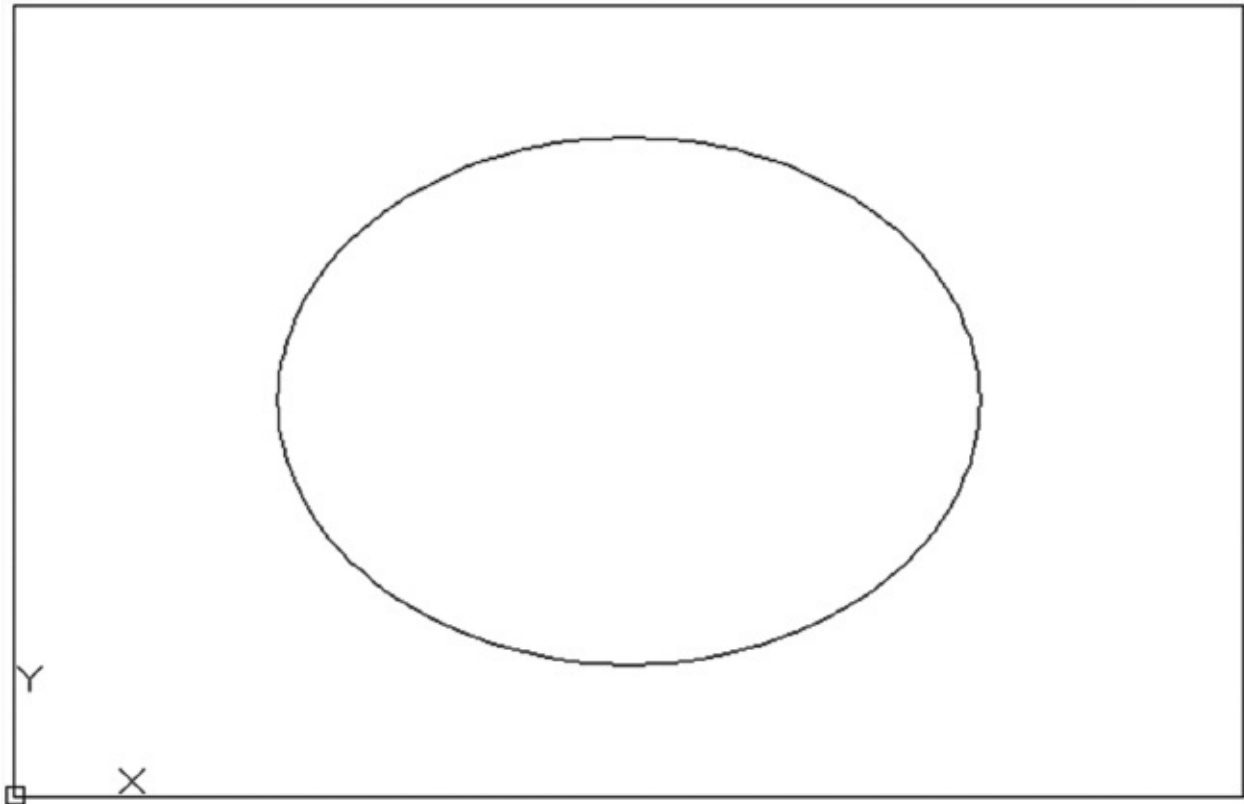

FIGURE 3.22 The completed bathroom sink
9. Point the cursor downward, and enter **6**↵ to make the length of the bowl 12". Metric users should enter **15**↵ for a bowl with a length of 30 cm. The basic symbol for the sink is complete (see Figure 3.22).